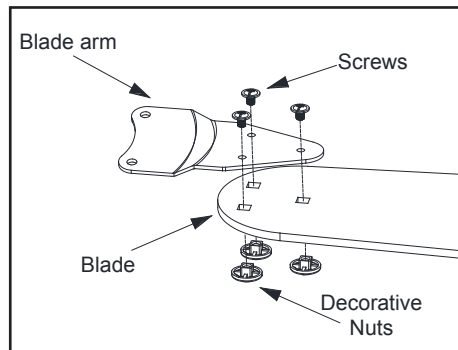

Figure 13
1. Attach a blade to blade bracket using the decorative nuts and blade attachment screws provided. Insert a blade attachment screw through the hole in the blade bracket and blade and into the decorative nut. Tighten each screw securely. (Figure 13)
2. Repeat these steps for each blade and blade bracket. (Figure 13)